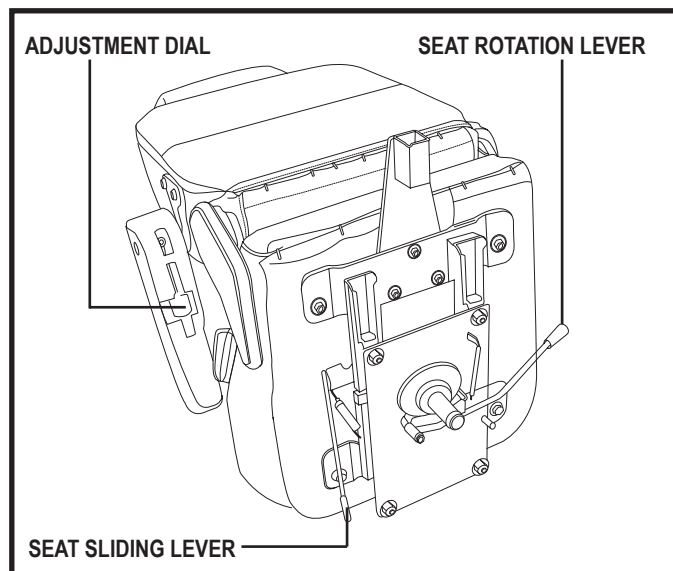

Figure 19. Seat Position Adjustments
1. Move the seat sliding lever located at the lower left side of the seat outward. **See figure 19.**